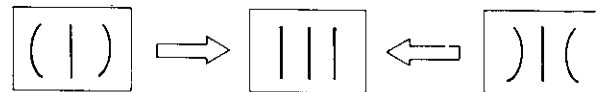

Fig. 28-4
4. Minimize the side pincushion distortion with S.P.N (RV5) on the DA board as shown in Fig. 28-4.
7. Minimize the side pincushion distortion with S.P.U (RV6) on the DA board as shown in Fig. 28-4.